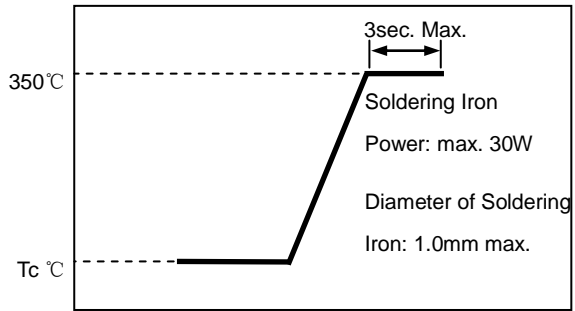

Fig. 8-2
**8.2 Iron Soldering Profile (Fig. 8-2):**